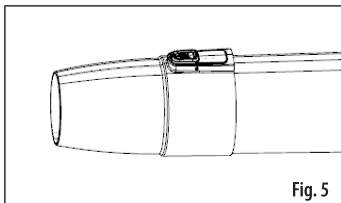

Fig. 5
3. Push the nozzle onto the blower tube until the latch snaps into place (Fig 5).